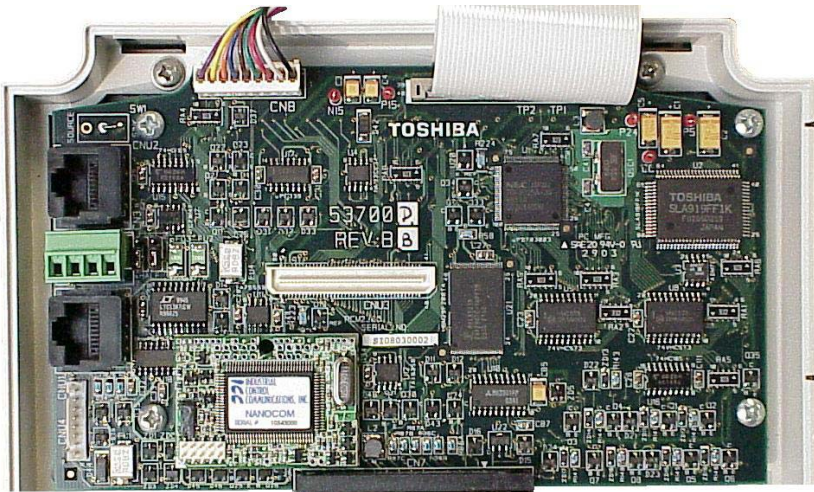

Figure 4: Post-Installation Overview
8. Take a moment to verify that the ASD-NANOCOM interface is fully seated in the drive control board's J4/J5 connectors, that the duplex selection jumpers are both in the "HALF" position, that the network cables are properly terminated in CN3, that CN3 is fully seated in its header, and that the RS-485 network cable has sufficient clearance from the drive's input power and output motor wiring. Refer to Figure 4.